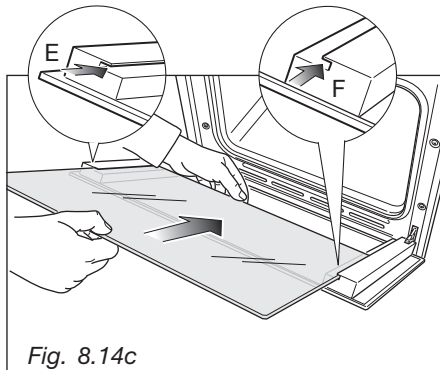

Fig. 8.14c
- Insert the inner pane in the left **E** and right **F** side guides (fig. 8.14c) and gently let it slide up to the retainers **H** (fig. 8.14d).